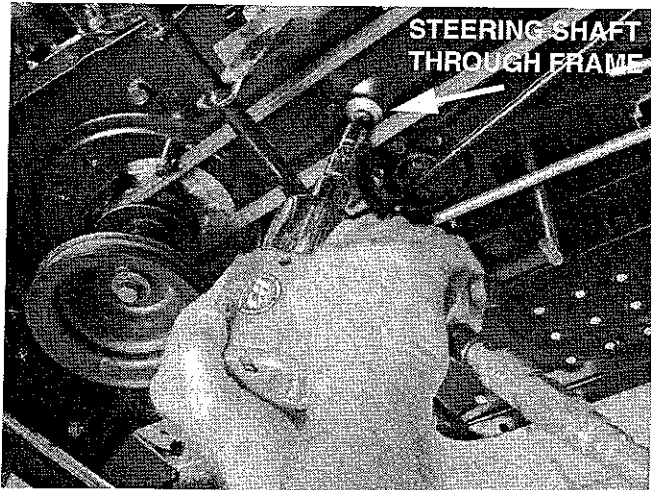

FIGURE 3
9. Using an impact gun with a large Phillips Head socket, remove the machine screw and cap securing the steering shaft to the frame. Discard the machine screw and cap. See Figure 3.